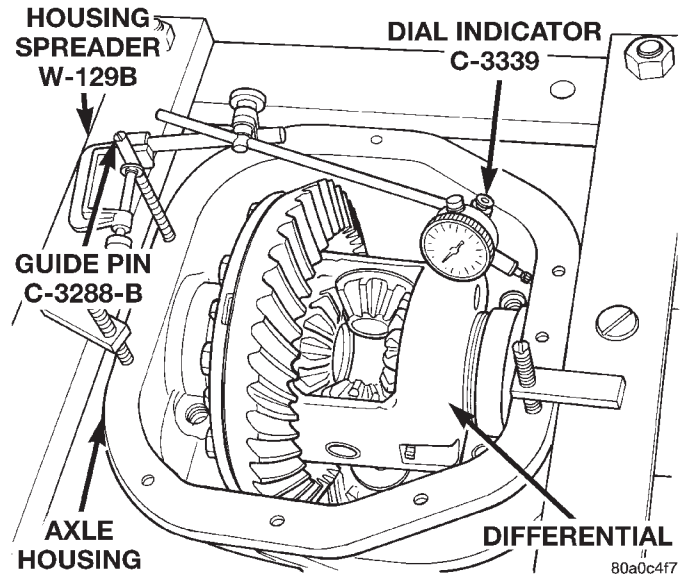

Fig. 28 Spread Differential Housing
- (3) Remove the differential bearing caps.
- (4) Position Spreader W-129-B with the tool dowel pins seated in the locating holes (Fig. 28).
- (5) Install the hold down clamps and tighten the tool turnbuckle finger-tight.
- (6) Install a Guide Pin C-3288-B at the left side of the differential housing. Attach dial indicator to housing pilot stud. Load the indicator plunger against the opposite side of the housing (Fig. 28) and zero the indicator.
(7) Spread the housing enough to remove the case from the housing. Measure the distance with the dial indicator (Fig. 28).
- (1) Position Spreader W-129-B with the tool dowel pins seated in the locating holes (Fig. 28). Install the hold down clamps and tighten the tool turnbuckle finger-tight.
- (2) Install a Guide Pin C-3288-B at the left side of the differential housing. Attach dial indicator to housing pilot stud. Load the indicator plunger
against the opposite side of the housing (Fig. 28) and zero the indicator.
(3) Spread the housing enough to install the case in the housing. Measure the distance with the dial indicator (Fig. 28).